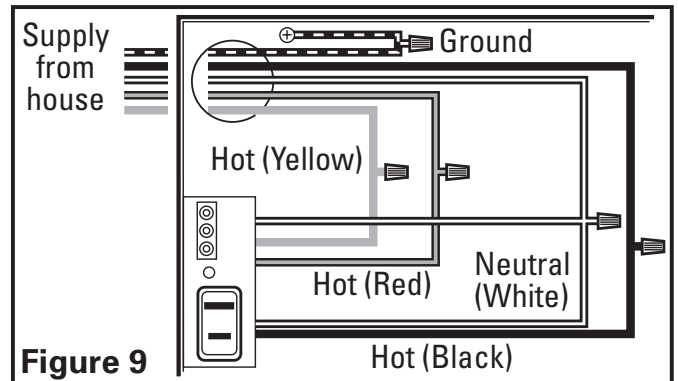

Figure 9
2. From where you have access to the fan's junction box, connect the white wire from the house to the two white wires from the fan. Connect one hot (black) wire from the wall switch to the black wire from the fan (this is the fan control). Connect second hot (red) wire from the wall switch to the red wire from the fan (this is the main light control). Connect the third hot (yellow) wire from the wall switch to the yellow wire from the fan (this is the night light control). Connect the ground wire from the house to the green wire from the fan (**Figure 9**). Use approved methods for all connections.